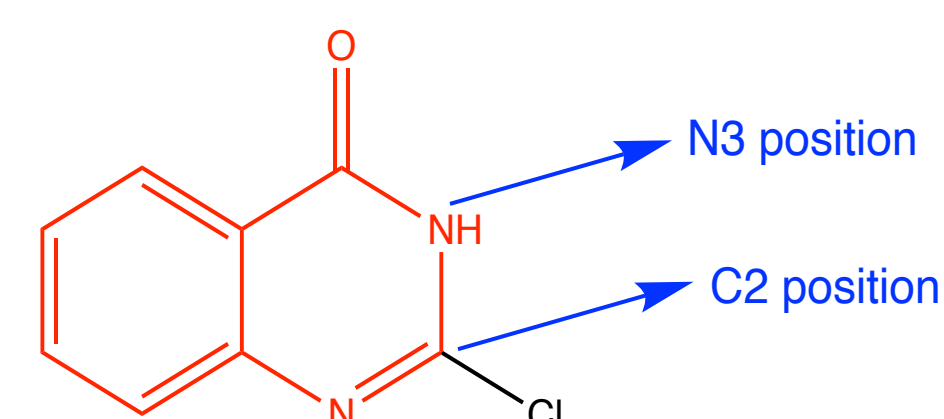

Figure 1: An example of C2 substituted quinazolinone with quinazolinone core in red
- Privileged organic scaffolds (Figure 1)
- Quinazolinone's structure sets the foundational framework that can be chemically altered at the C2 and *N*3 position (Figure 1) to exhibit a wide array of biological effects such as anti-parasitic activity.